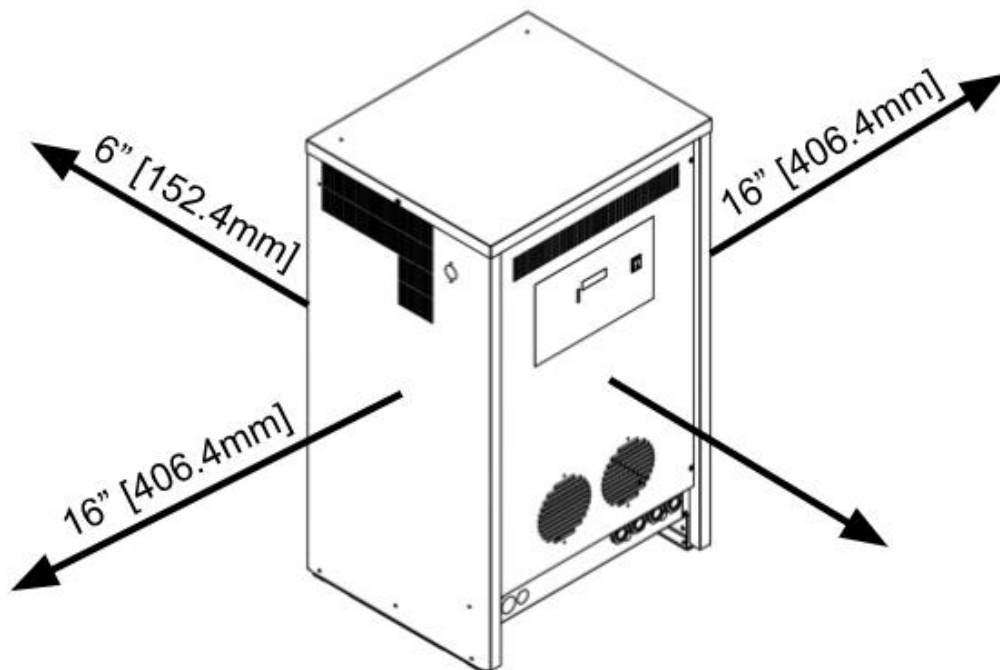

Figure 8: Reference image of required clearance on each side of the charger for air flow.
2. Ensure the charger has proper clearance (Figures 8 & 9).
The dimensions in Figures 8 & 9 are not proportionate. They are for reference only. Use a proper measuring tool to ensure required clearance when installing the charger.